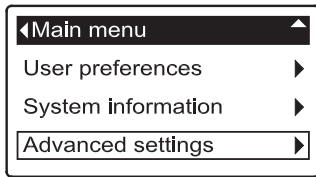

FIG. 17
2. From any of the rolling status screens, press the conditioner/refiner’s SELECT (O) button to display the **Main menu**.
3. Press the conditioner/refiner’s DOWN (▼) button to scroll through the menu options until **Advanced settings** is highlighted (See Figure 17).